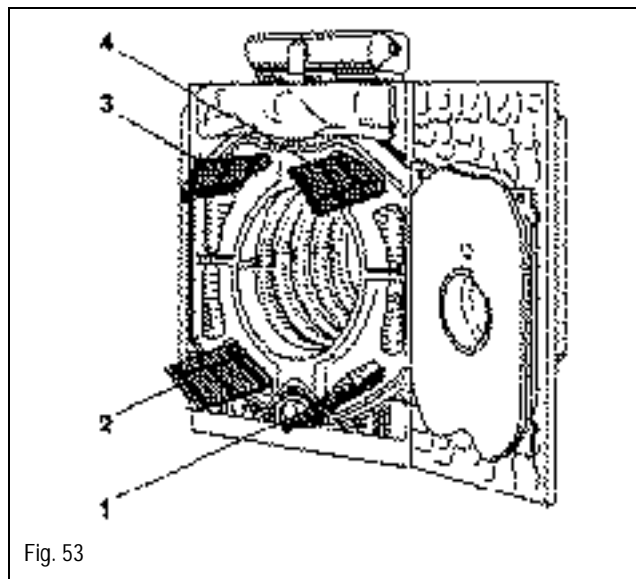

Fig. 53
- Remove all baffles (1-4) (if present) from the heat exchanger. Record where each baffle was located (Fig. 53).